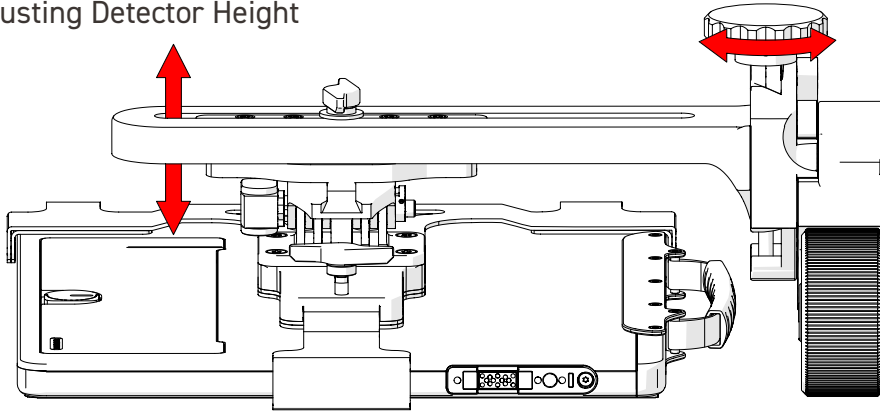

Fig. 39 - Rotating the red knob raises or lowers the detector arm
1. Rotate the red knob on the detector bracket to raise or lower the detector arm (*Fig. 39*).